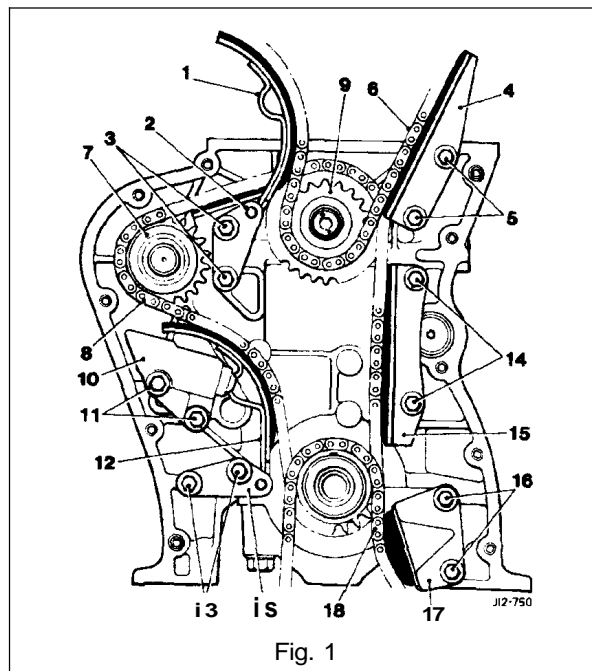

Fig. 1
- Remove the upper timing chain (6 Fig. 1) and remove the flanged bolts (3 Fig. 1) securing the tensioner pedestal.
- Remove the pedestal / tensioner assembly and chain damper (1 Fig. 1).